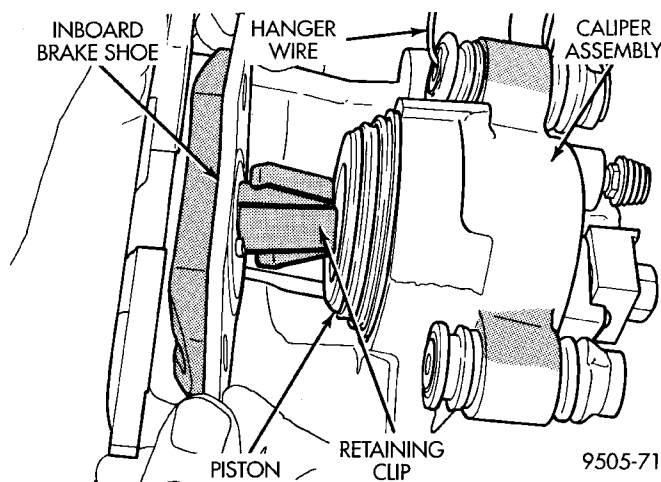

Fig. 63 Removing Inboard Brake Shoe
(8) Pull the inboard brake shoe away from the caliper piston until the retaining clip is out of the cavity in the piston. (Fig. 63).